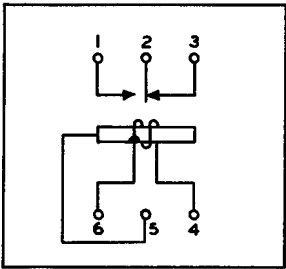

Fig. 70 – Winding and Spring Terminal Numbering as Viewed From the Bottom — 294-Type Relay
**2.77** The winding and spring terminals of the 294-type relays, as viewed from the bottom are designated as shown in Fig. 70.